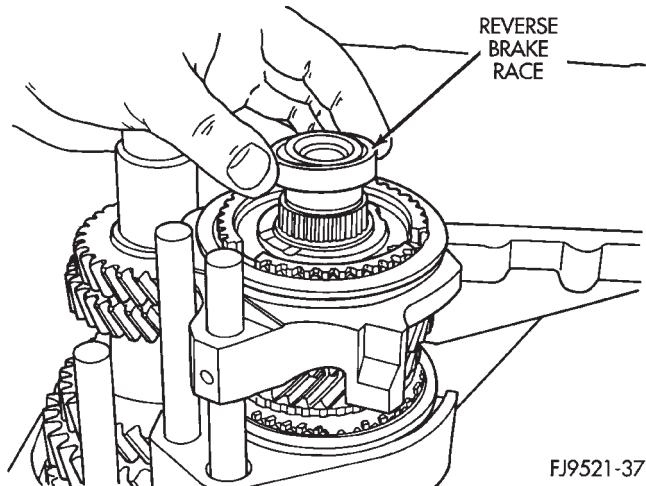

Fig. 62 Reverse Brake Race
(18) **TRANSAXLE W/REVERSE BRAKE:** Remove the reverse brake blocking ring, shim, reverse brake friction cone, bearing and race from the input shaft assembly (Fig. 58) (Fig. 59) (Fig. 60) (Fig. 61) (Fig. 62). **TRANSAXLE W/O REVERSE BRAKE:** Remove plastic spacer from the input shaft assembly.